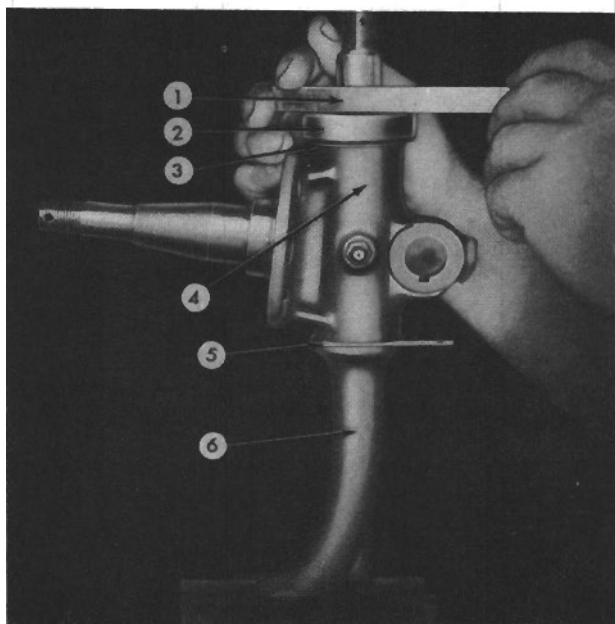

FIG. 24
Then to determine the steering knuckle end play on the king pin, first place the king pin in a vice and place the steering knuckle (4, Fig. 24) on the king pin (6) *without the cork gasket* which is normally installed in the bottom of the knuckle. Place the thrust bearing (2) and shims (3) on the king pin. Insert a .003" to .006" (0.076 mm. to 0.15 mm.) feeler gage (5) between the shoulder of the king pin and the steering knuckle. Place a straight edge or small scale (1) across the top surface of the thrust bearing and lower shoulder of the king pin, and press down on the thrust bearing. If the surface of the thrust bearing is not flush with the shoulder of the king pin, remove or add shims as required. After proper end play is obtained, remove the steering knuckle, thrust bearing, and shims from the king pin.